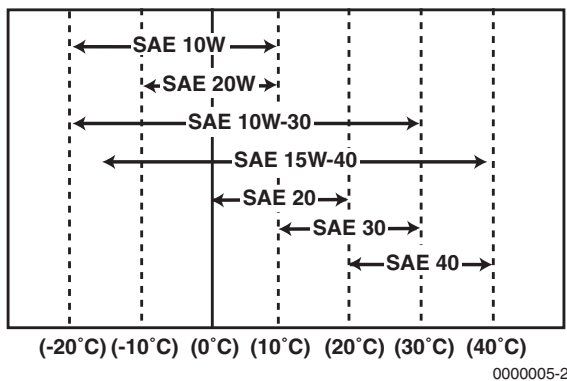

Figure 2
3. Select the oil viscosity based on the ambient temperature where the engine is being operated. See SAE Service Grade Viscosity Chart (**Figure 2**).
Select the appropriate engine oil viscosity based on the ambient temperature and use the SAE Service Grade Viscosity Chart in **Figure 2**.